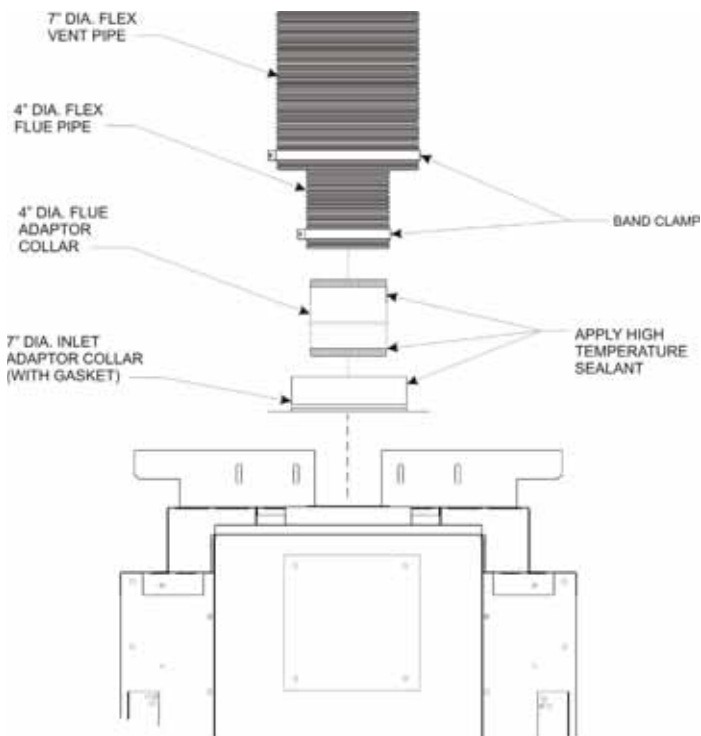

Figure 33
17. To attach the vent connections at the fireplace, be sure the 7" diameter adapter collar has been installed per step 3. Apply a bead of silicone sealant to the 4" diameter flex connector, then slide the flex pipe adapter collar into the fireplace flue collar and secure by installing a minimum of two (2) screws through the flue collar and into the adapter. **See Figure 33.**
18. Apply sealant to the 7" diameter adapter collar, slide outer flex vent over the collar, then secure with a 7" diameter band clamp. **See Figure 33.**